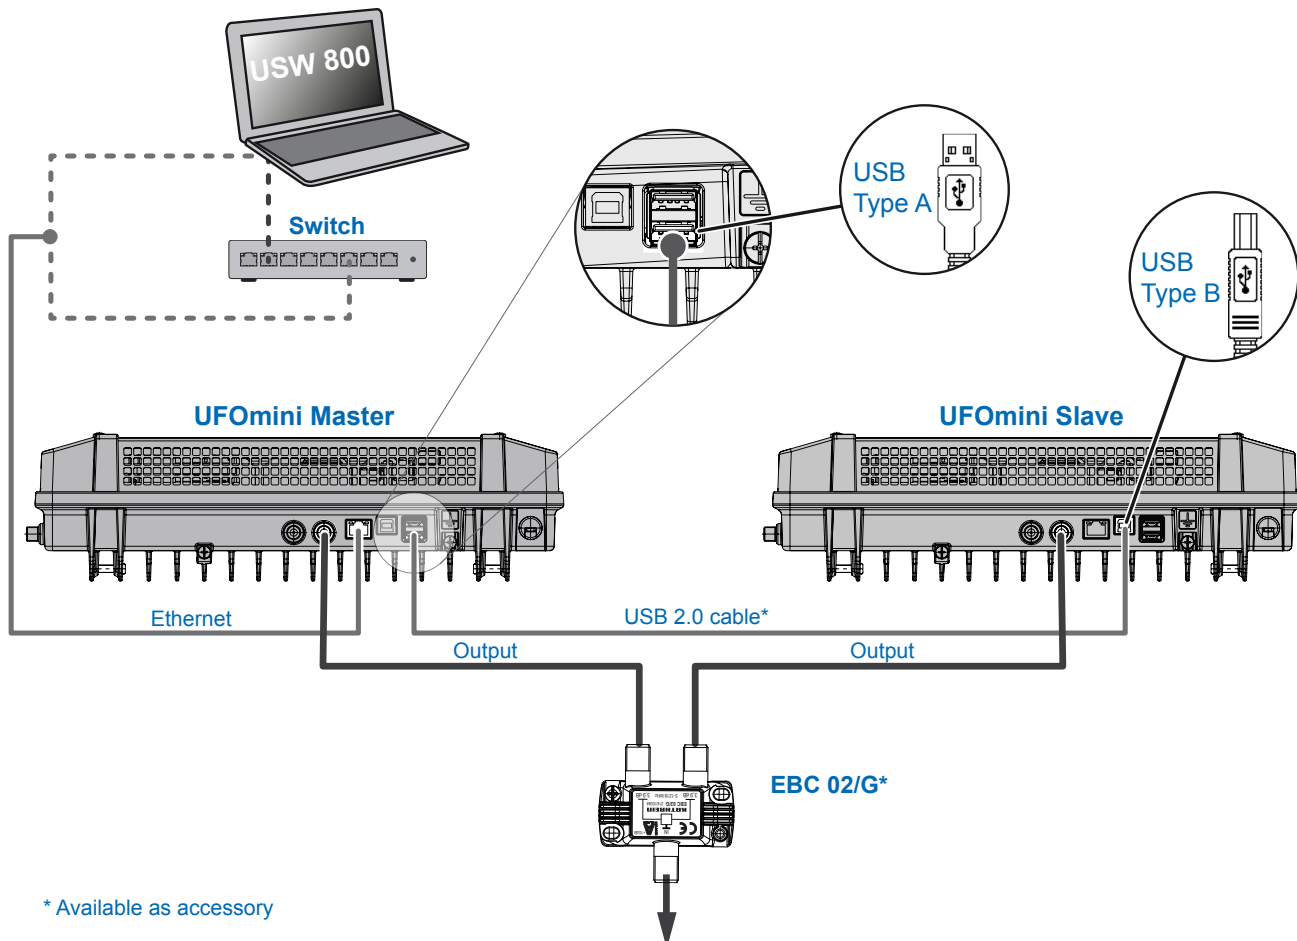

Fig. 4: Cabling
2. Connect an Ethernet cable¹⁾ to the RJ45 socket on the computer, if required, by means of a switch or router; see Fig. 4, P. 5. The head-end will now function as the *master*.
3. If UFOmini devices are connected to a system via UFOlink, please cascade each additional device with a USB 2.0 cable according to the following specifications (Fig. 4). In this case: